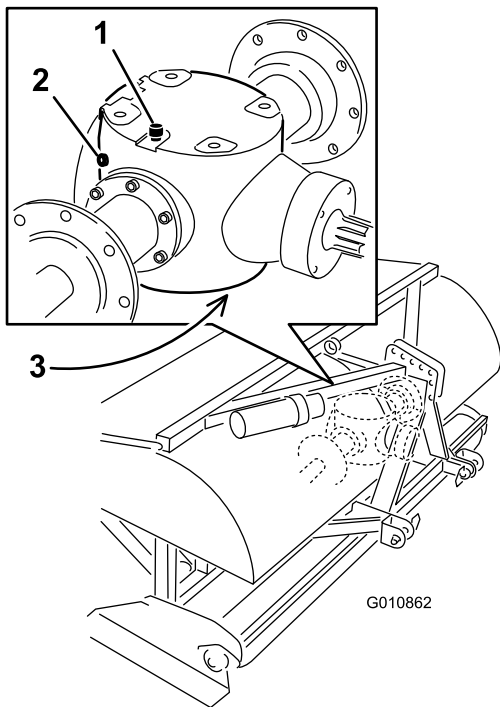

Figure 46
3. Remove the check plug from the gearbox (Figure 46).
4. Ensure that oil is up to the bottom of the check plug hole in the gearbox (Figure 46).
1. Clean debris from vent/fill plug and drain plug to avoid contamination (Figure 46).